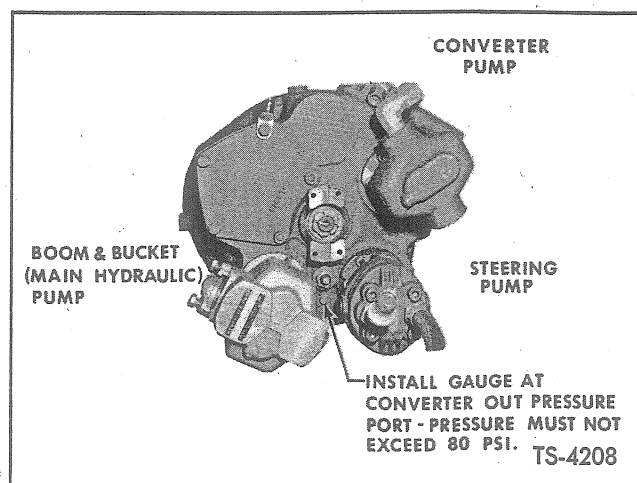

Fig. 26. Check Converter OUT Pressure
1. Check engine speed. Install gauge at converter OUT pressure port as shown in Figure 26.